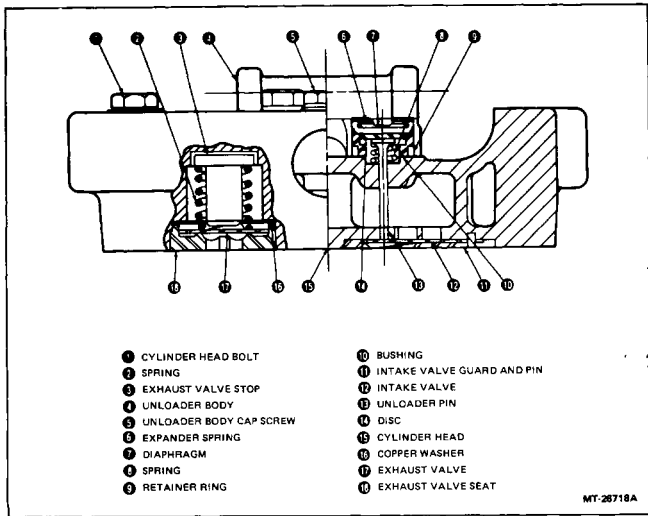

Figure 3 - Unloader Components
4. Unloader pins and springs will protrude from head. Remove pins from their bores (Figure 3).
6. Remove bushings (Item 3, Figure 3). Some unloader assemblies will have snap rings retaining the bushings in place. Use snap ring pliers to remove the ring.